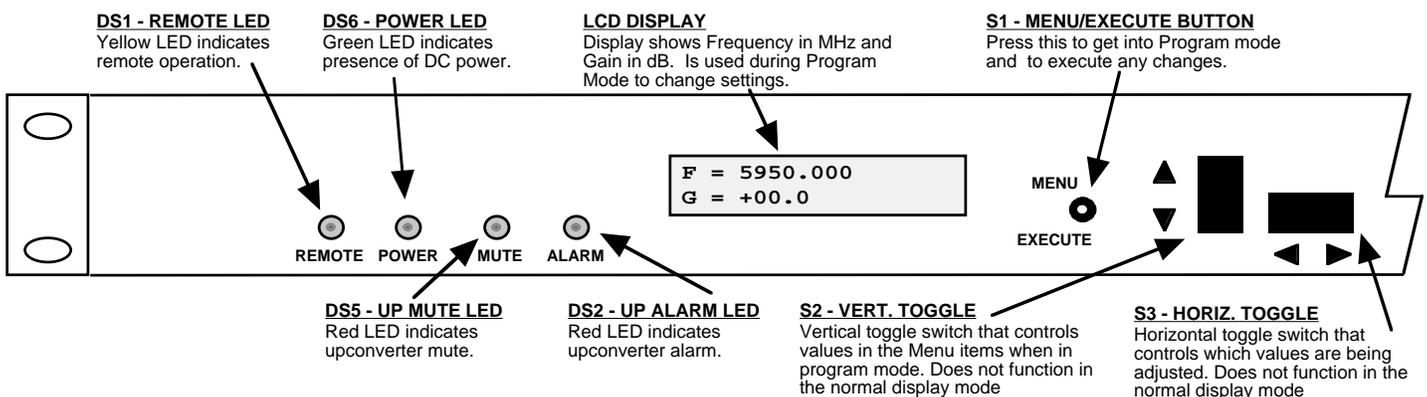

FIGURE 2.3 2015-58T Front Panel Controls and Indicators
2.3 Front Panel Controls and Indicators - Figure 2.3 shows the front panel controls and indicators.
7. Be sure DS6 (green, DC Power) is on and DS2 (red, Alarm) is off (Figure 2.3).